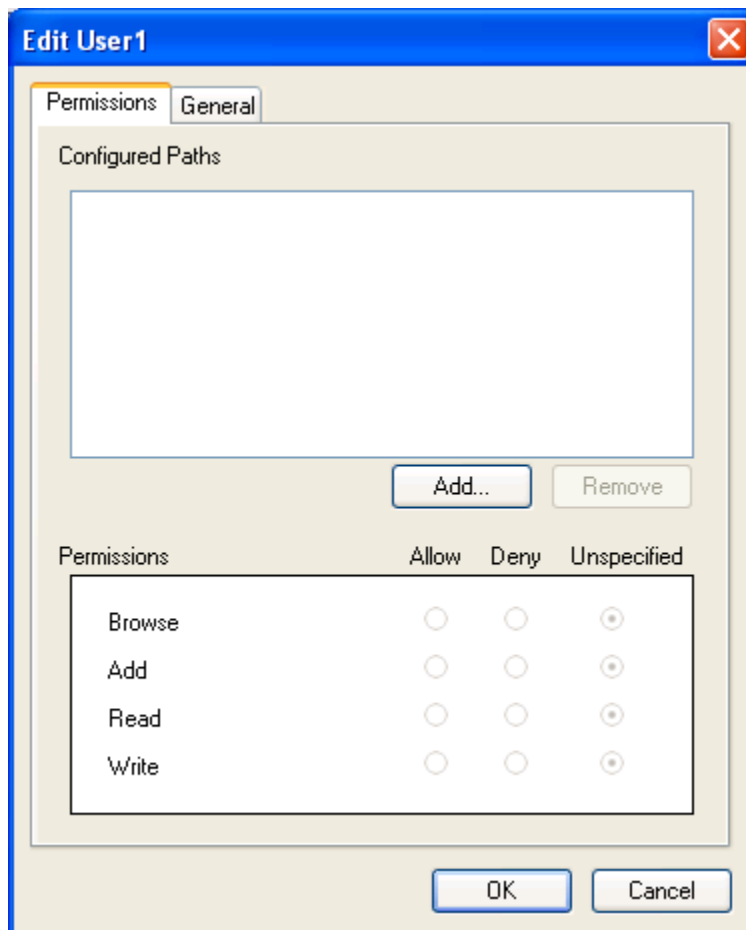

Figure 85 - Edit <Username> Window (Permissions Tab)
6. The **Edit <Username>** window (Figure 85) appears. Follow the instructions in the **Edit User** section for adding permissions.
2. The **Edit <Username>** window (Figure 85) appears.